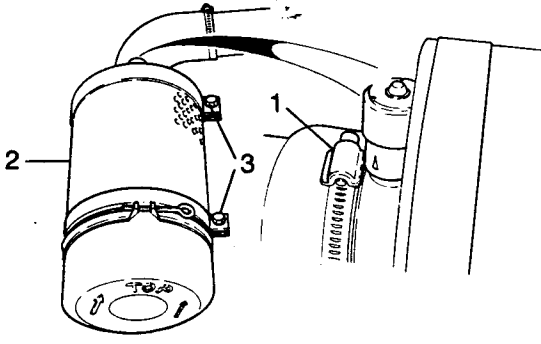

Fig G2.1
- (1) Refer to Fig G2.1. Release the hose clamp (1) and pull the flexible pipe away from the air cleaner (2).
- (2) Remove the two nuts and bolts (3) in the retaining straps, separate the straps and lift the air cleaner out.